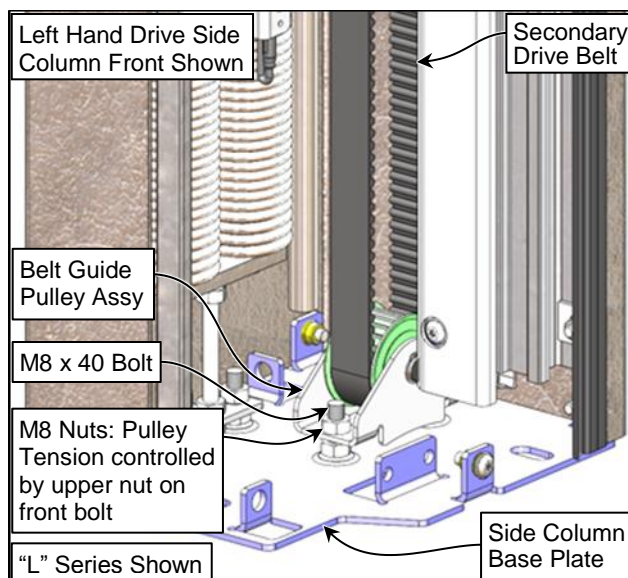

Figure 52
Moving the pulley closer to the base plate will increase belt tension. Moving the pulley away from the base plate will decrease belt tension. (See Figure 52)
5. Lock in the belt tension by tightening the lower nut against the bottom of the pulley bracket. (See Figure 52)